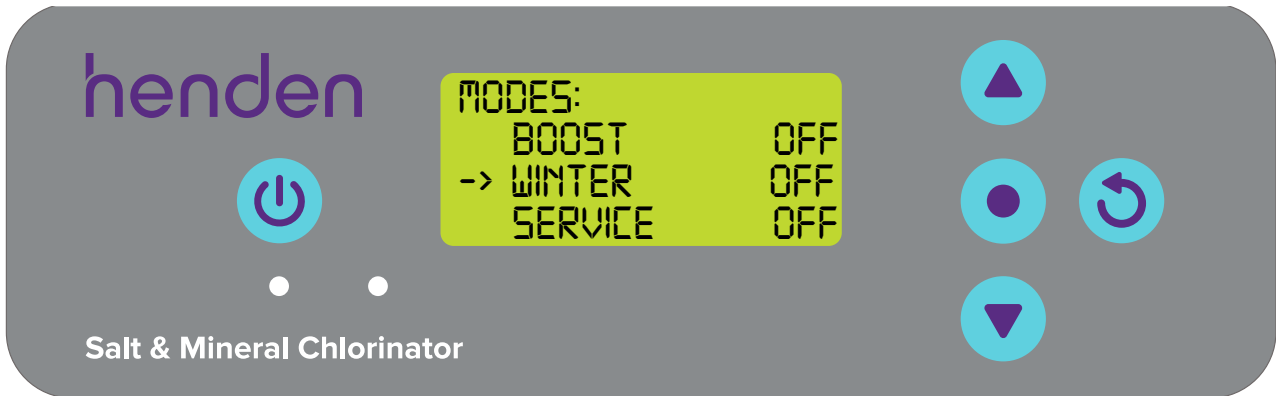

Figure 9.50
- Press the **menu up/down** buttons to scroll down to **WINTER** (ref Figure 9.50), then select by pressing the **menu/setting select** button.